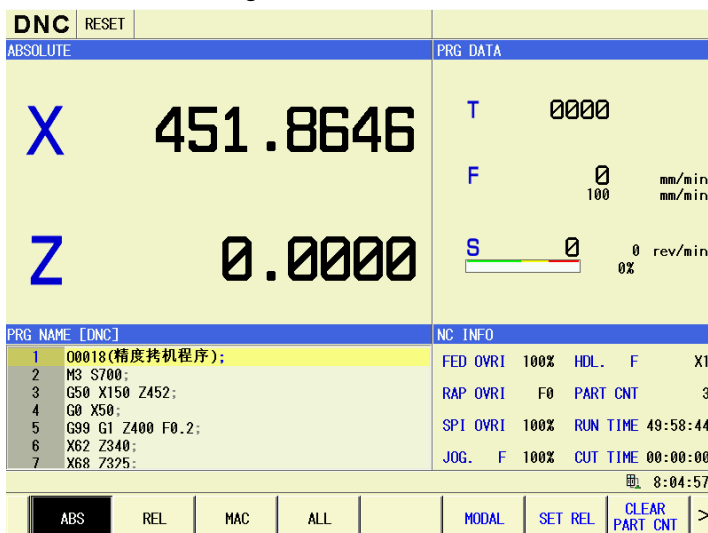

Fig.6-7
- (3) The key  is pressed to start the program, the program is automatically started and the cycle start indicator is ON. When the automatic running ends, the cycle start indicator is OFF, which is shown as Fig. 6-7: